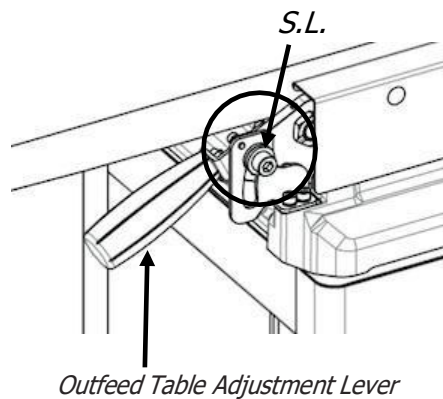

Figure 24: Screw Lock (S.L.)
STEP 3: Use a hex wrench (not included) to loosen Screw Lock (S.L.) to release outfeedtable adjustment lever as shown in **FIG. 24**.